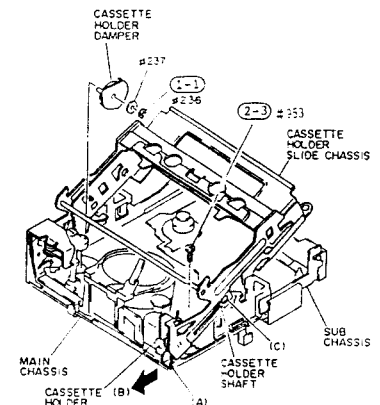

Fig. 2-42
- 1) Remove one (1) E-ring holding the cassette holder damper. (See Fig. 2-42)